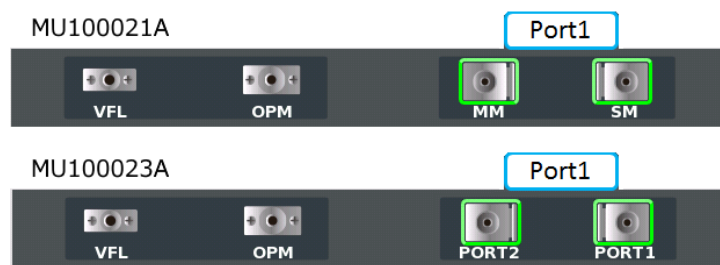

Figure 1.17: The physical and logical port number of the OTDR module
- INST:STAR OTDR-OTDR,1-PORT1 (Figure 1.17)